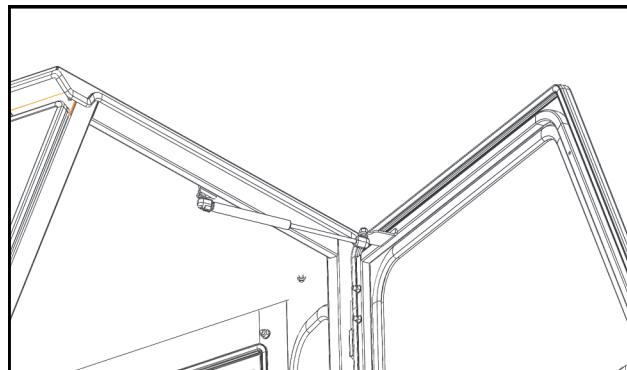

Fig. 18.6 (Gas Struts)
- 18.6 See fig. 18.6. With the door open, attach a gas strut to the ball studs on the side frame and door. Make sure the quick release end is on the side frame so that the gas strut stays with the door if removed for ventilation.